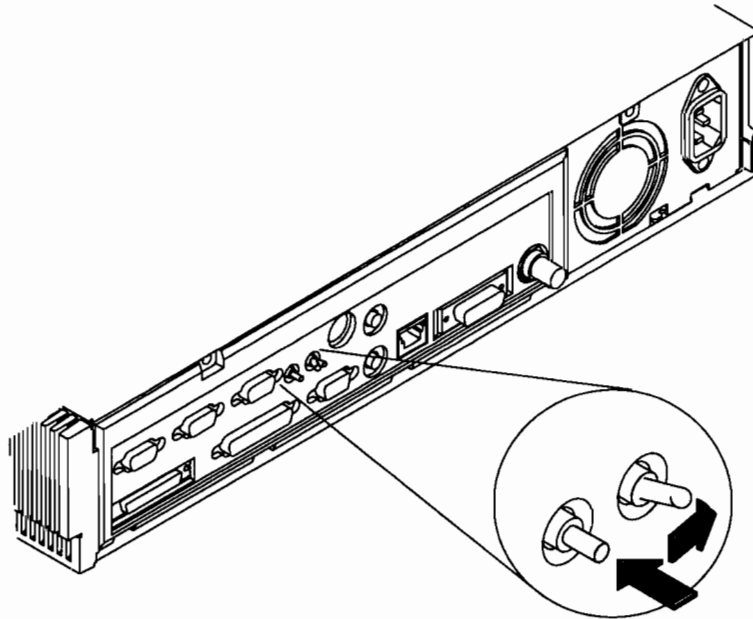

Figure 8-13. Restarting the Operating System
3. To restart the operating system, first set the Service/Normal mode switch to Normal and then press the Reset switch as shown in Figure 8-13.